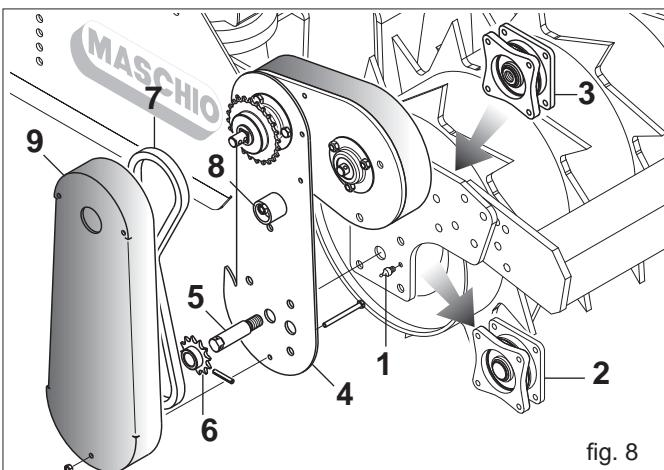

fig. 8
- 1) Remove the lubricator (1 Fig. 8) and flanged bearing (2), mounted on the left hand side of the roller, removing the four fixing screws.
- 3) Assemble the parts (3) and (4) (Fig. 8) on the side of the roller, using the four fixing screws.
- 4) Screw the axis (5) onto the flanged bearing (3).
- 6) Mount the transmission chain (7), tightening using the chain tensioner provided (8).
- 7) Protect the transmission unit with the guard provided (9).